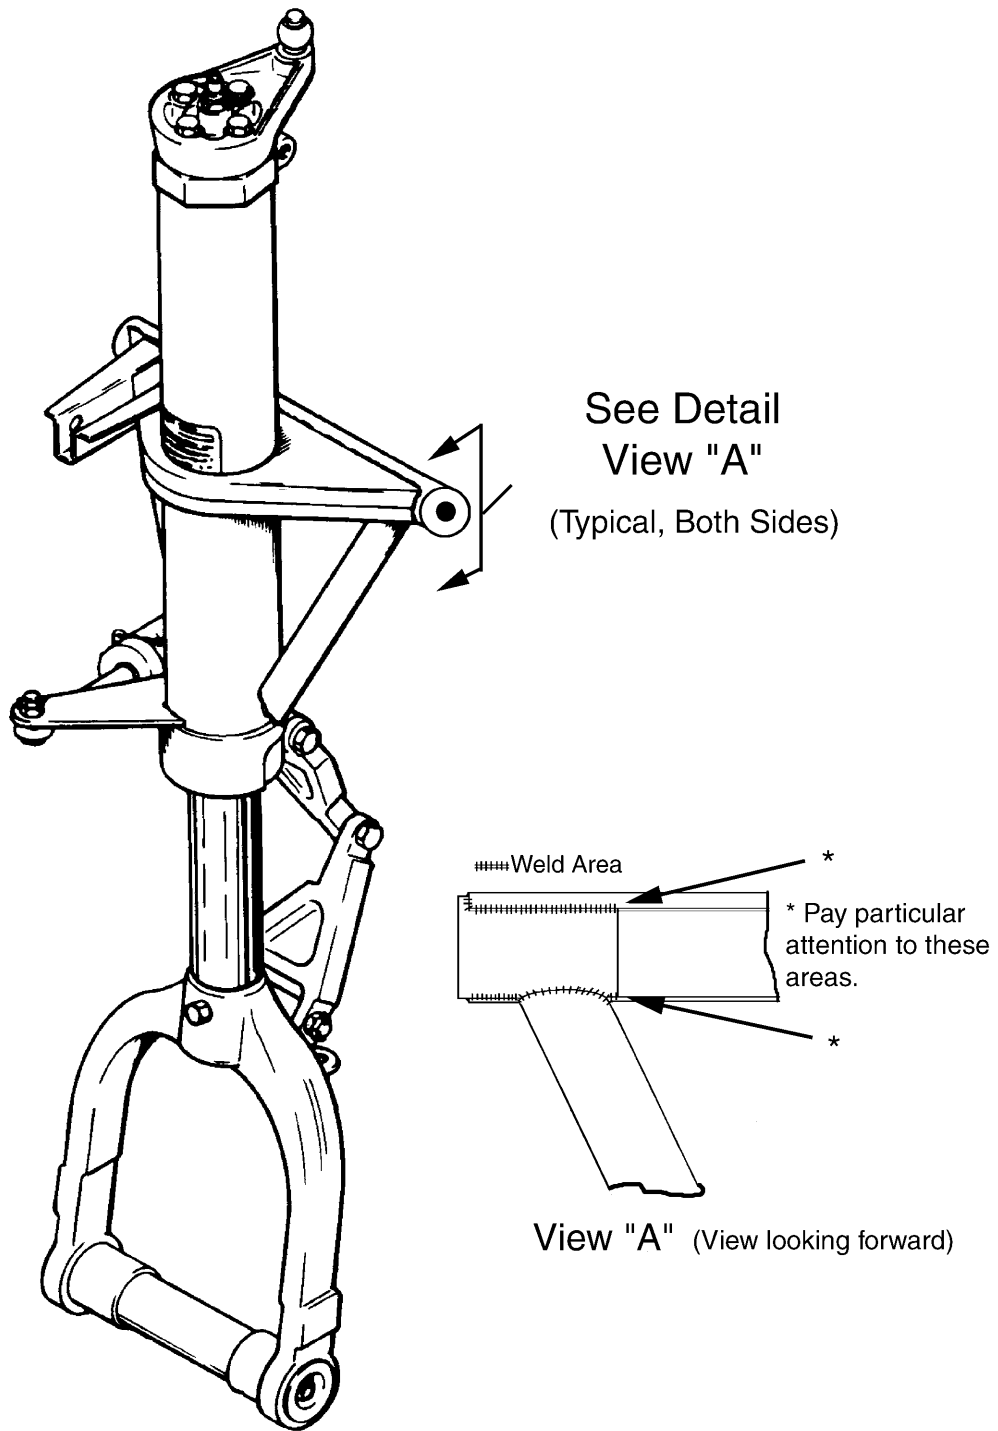

Figure 32-10. Nose Gear Trunnion Inspection
- (7) 1000 Hour Nose Gear Trunnion Inspection (See Figure 32-10.)
Beginning at 2000 hours and each 1000 hours thereafter, visually inspect the nose gear trunnion (P/N 95723-005/-006) for cracks in the areas shown in Figure 32-10. Use supplemental lighting and a 10X magnifier.